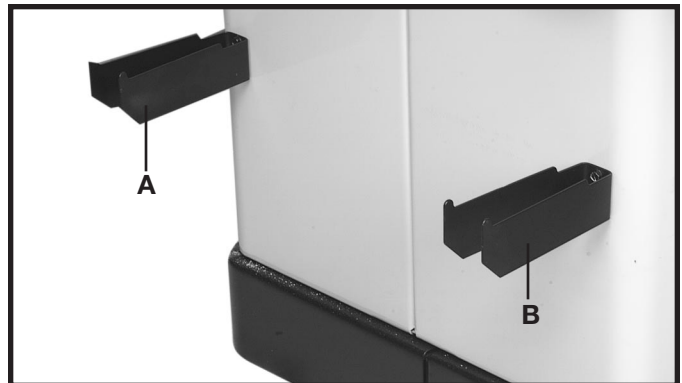

Fig. 36
Assemble the rip fence holder brackets (A) and (B) Fig. 36, to the four holes located in the right hand side of the saw cabinet using four #10 x 1/2" sheet metal screws supplied.